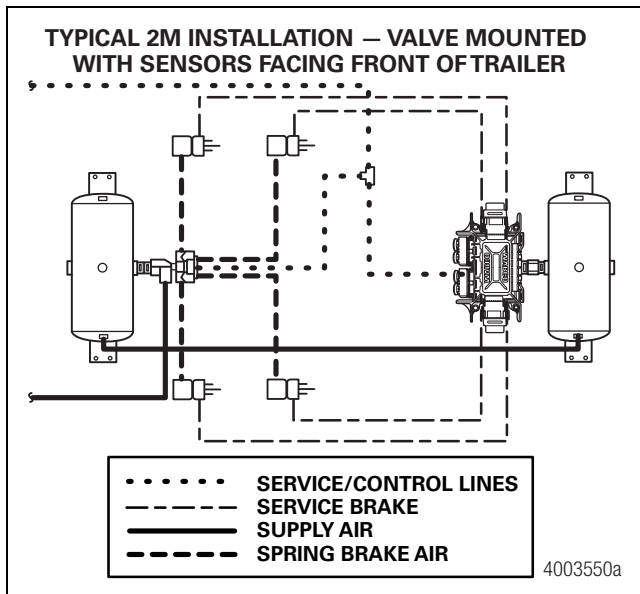
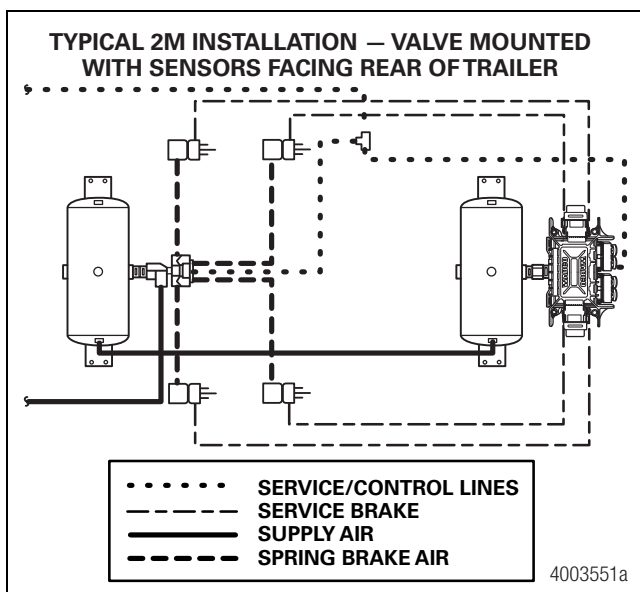

Figure 5
Figure 6
2. Connect the air delivery lines to the appropriate brake chambers (3/8-inch NPT). Figure 5 and Figure 6.